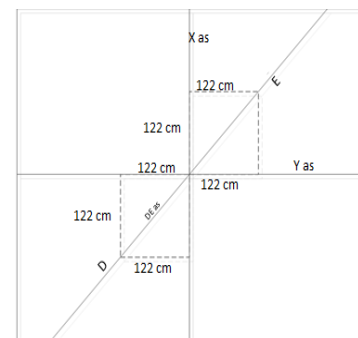

Figure 2
as Herringbone will require a centerline and two working lines (Figure 2).
3. Measure the room for center and strike the main control line, perpendicular line and diagonal reference line (Figure 2).